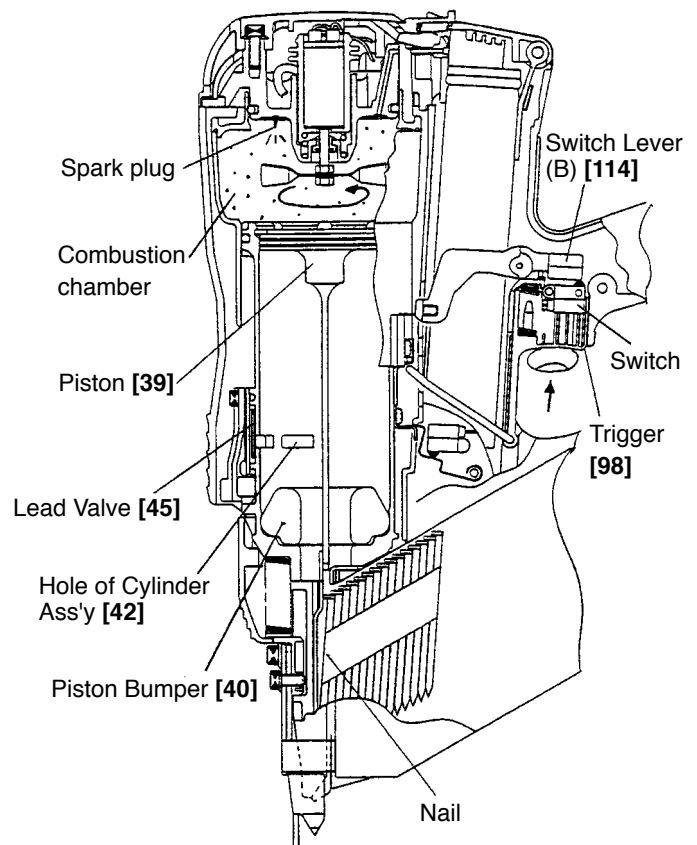

Fig. 6
2) When the Trigger [98] is depressed, the switch in the Trigger [98] contacts the end of Switch Lever (B) [114] and turns on. Then the spark plug in the combustion chamber discharges (Fig. 6).